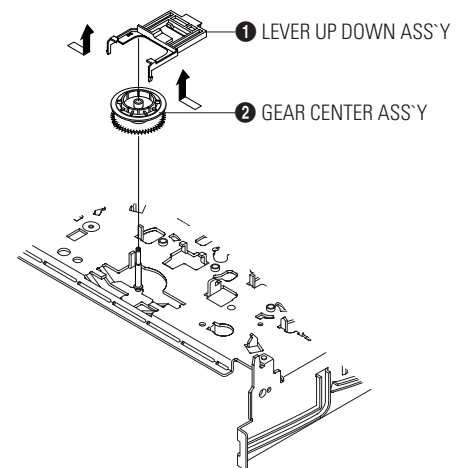

Fig. 3-21 Lever Up Down Ass'y Removal
- 1) Remove the 2 hooks in the direction of arrow as shown Fig. 3-21 and lift the Lever Up Down Ass'y ❶.
- 2) Lift the Gear Center Ass'y ❷.